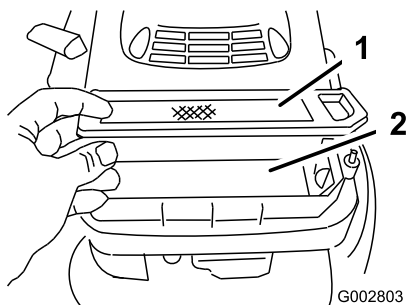

Figure 24
5. Remove the paper air filter and discard it (Figure 24).